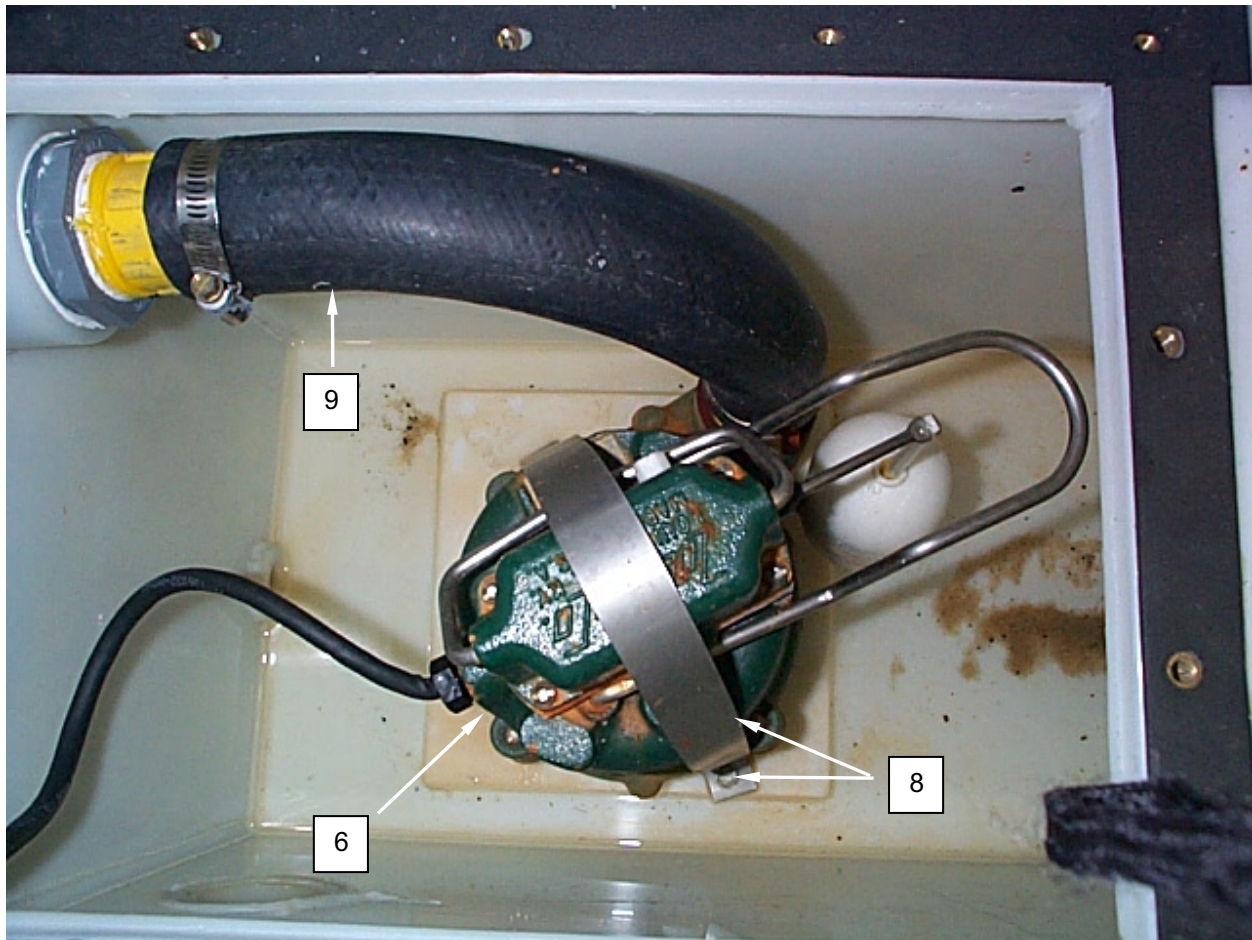

Figure 5. Replace the Drainage Tank Pump.
5. Remove screws retaining mounting strap (**Figure 5, Item 8**) and remove strap.
6. Loosen hose clamp retaining discharge hose (**Figure 5, Item 9**) to pump (**Figure 5, Item 6**).
7. Remove discharge hose (**Figure 5, Item 9**) from pump (**Figure 5, Item 6**) and remove pump from drainage tank.
11. Install replacement pump assembly (**Figure 5, Item 6**) into drainage tank.
12. Connect discharge hose (**Figure 5, Item 9**) to pump discharge and retain with hose clamp.
13. Install mounting strap (**Figure 5, Item 8**) and retain with screws.